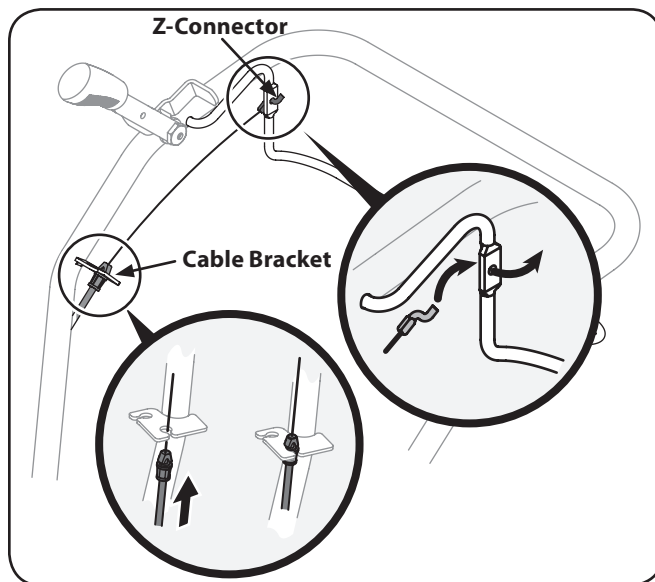

Figure 3-6
- Carefully unwrap the forward clutch cable from its shipping position. Pull the cable up through the bottom hole of the cable bracket and push the cable connector up through the hole until the groove in the connector snaps into place. See Fig. 3-6.
- Place the Z-connector into the hole in the forward clutch bail from the outside of the bail to the inside. See Fig. 3-6.